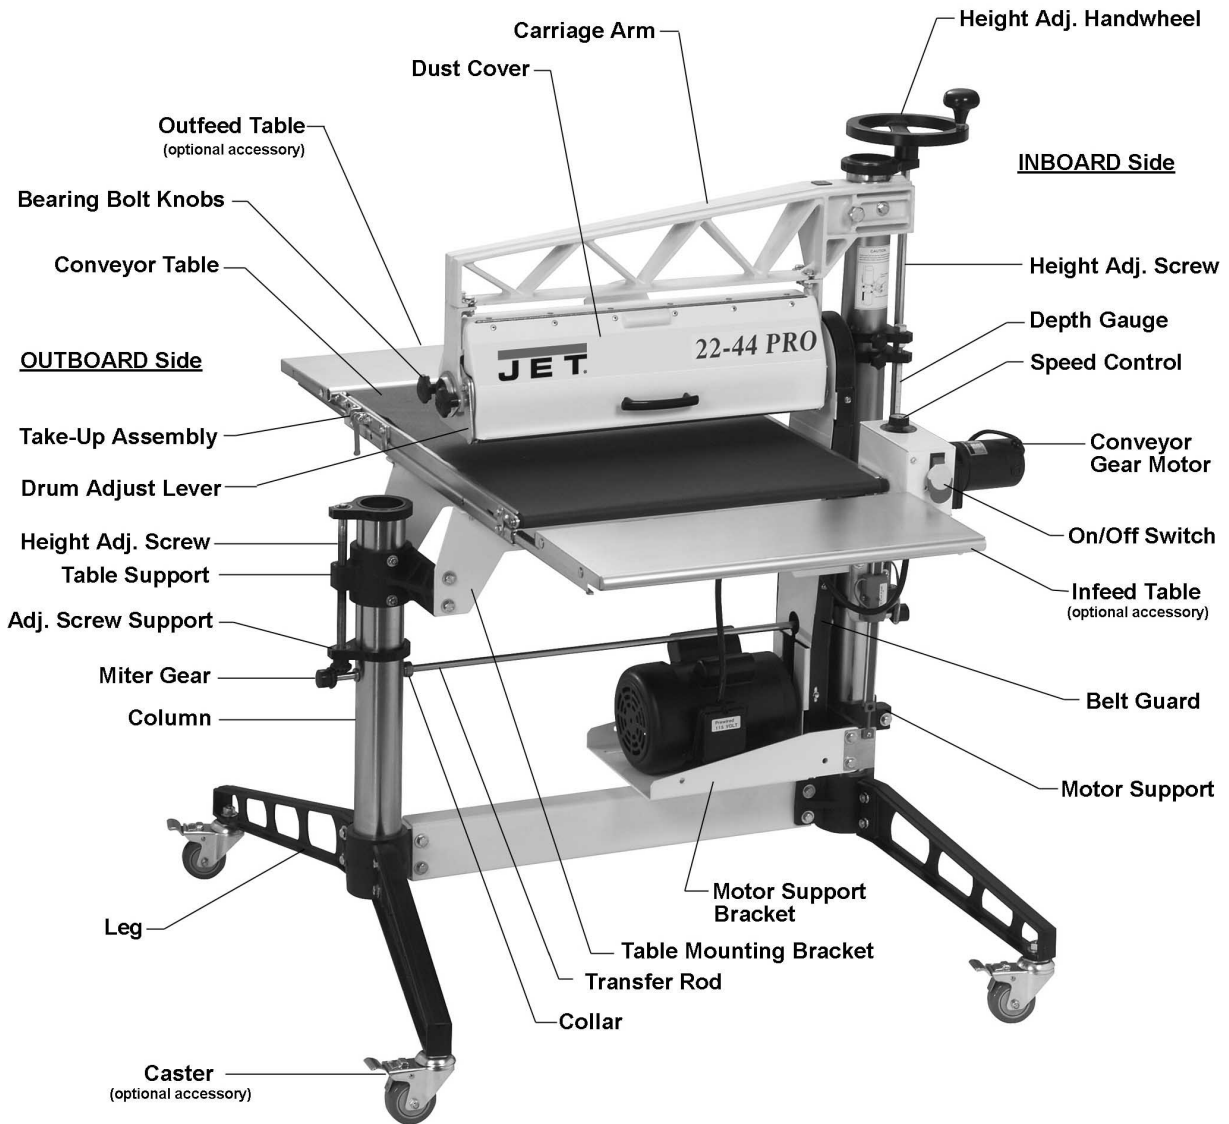

Figure 1
1. Raise the sander from the floor using a forklift, hoist or an assistant. (Place hoist straps through the carriage arm or below the table mounting brackets. If using a forklift, fork below the table mounting brackets. See Figure 1, page 7.)